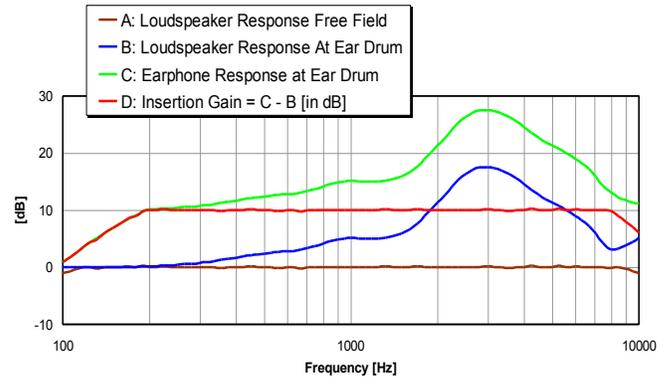

Fig. 2. Measurements for determining the insertion gain of an earphone.
First, the sound source is measured at the reference position (A). Next, the response at the ear drum is measured (B). Lastly, the earphone response is measured at the ear drum (C). Typical resulting responses are shown in Fig. 2.
ear canal resonance. In order for the earphone to have a flat perceived response, this feature must appear in the earphone response when measured at the ear drum. The insertion gain of the earphone under test is the difference between the measured ear phone response in the ear simulator and the open ear response, in dB. In this example, the open ear response is free field, on-axis, but this could be diffuse field or some other appropriate target. The desired result is a “flat” insertion gain across the bandwidth of interest, as shown in Fig. 2, curve D.